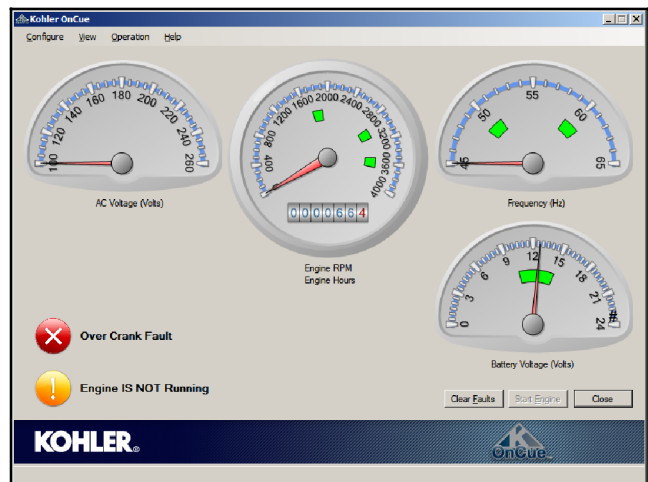

Figure 3-3 UI with Fault Message
The user interface (UI) displays active faults. A checkmark in a green circle near the lower left corner of the screen indicates no faults. An X in a red circle indicates a fault shutdown. See Figure 3-3.